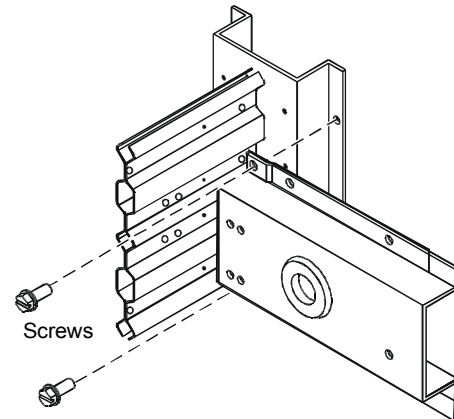

**Figure 10: Actuator/Linkage Position for Power Fail Open Operation**
1. Install the universal mounting bracket to the inside of the damper frame using the two holes next to the blade that is two above or two below the preferred driving blade for Power Fail Open (Figure 10), and next to the preferred drive blade for Power Fail Closed (Figure 11).